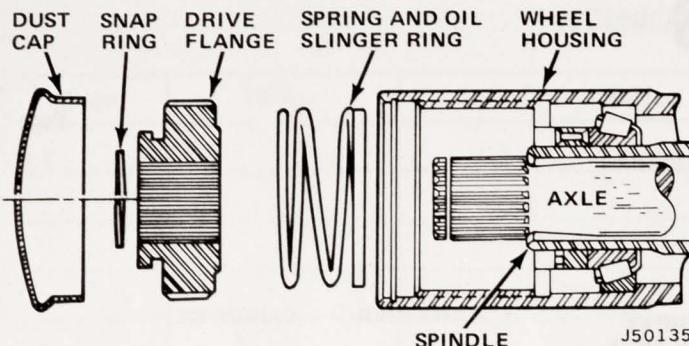

Fig. 7-3 Standard Drive Flange—Cherokee-Wagoneer-Truck Models
- (1) Remove and discard dust cap (fig. 7-3).
- (2) Remove snap ring from end of axle.
- (3) Remove drive flange and spring and oil slinger ring from wheelhousing.